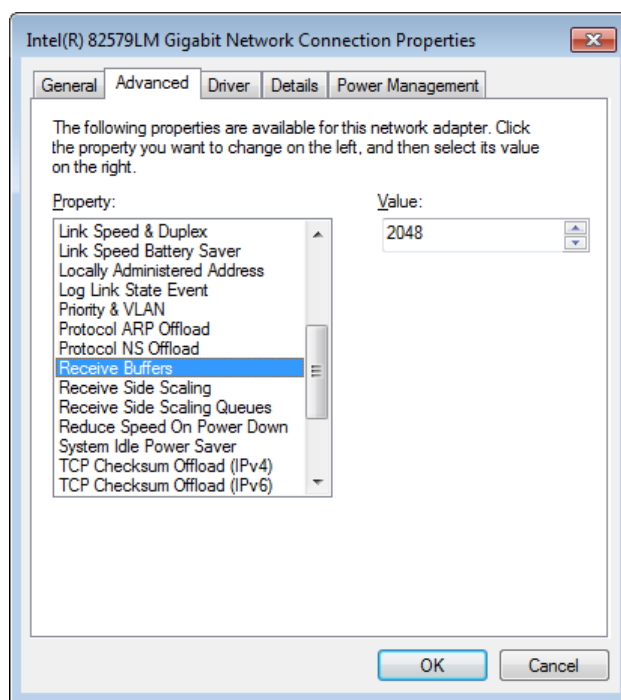

Figure 101: Network interface card - advanced driver settings - Receive Buffers
4. The settings of the driver can be accessed by choosing the *Advanced* tab of the opened window. As shown in Figure 101, raise the value of the *Receive Buffers* property to its maximum value.